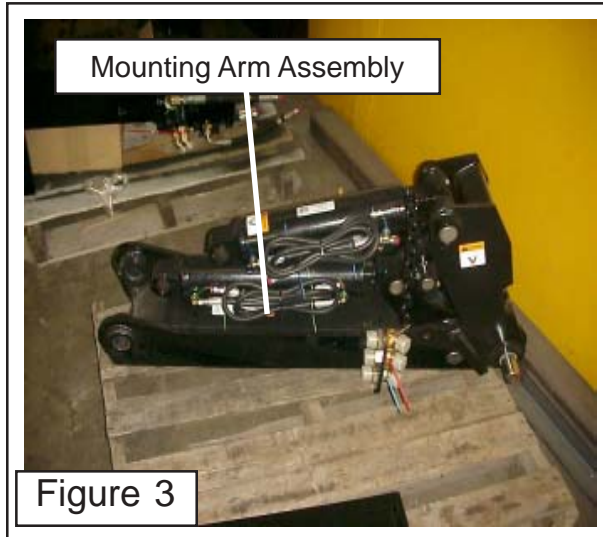
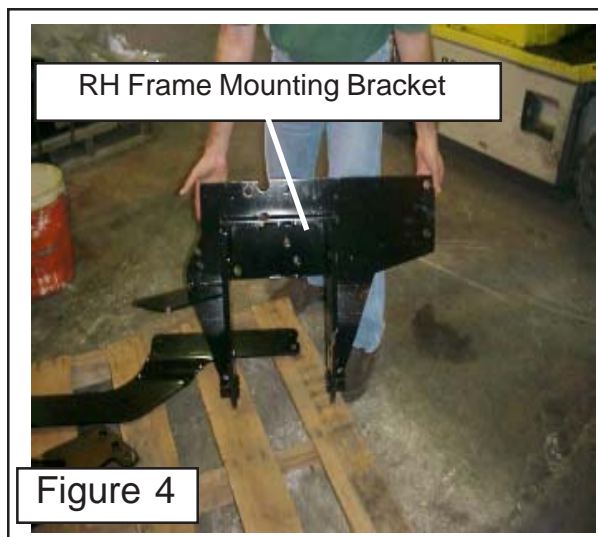
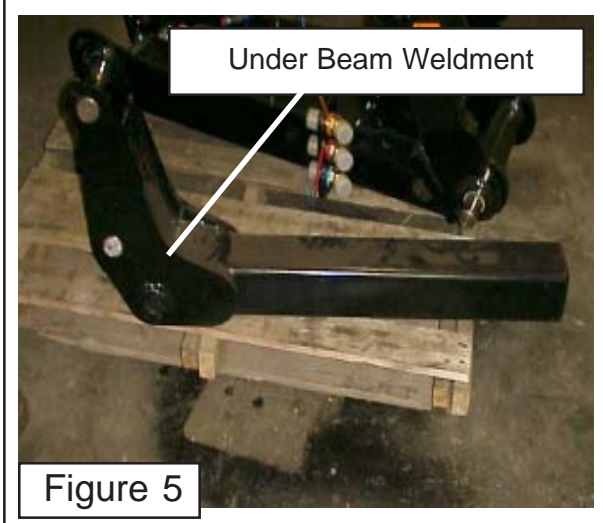

Figure 3
Figure 4
Figure 5
1. Locate Components. Locate Mounting Arm Assembly (See Figure 3). Locate the RH Frame Mounting Bracket (See Figure 4). Locate the underbeam weldment (See Figure 5). These component will be assembly together then mounted on to the tractor. These are heavy components you will need an overhead hoist to lift them into position.
In general, a Joystick Mounting Bracket is attached to the tractor, often under the Tractor Seat or the the door post. The Joystick, Momentary Start Switch, and the Push Pull Switch are mounted to the Joystick Mounting Bracket . It may be necessary to use a floor port, or cut a hole in the floor board of the Tractor. Make certain that this does not interfere with the operation of the tractor or the Brahma. The Hole for the cables and wire harness can be cut with a hole saw if required (See Figure 3).
1. Disconnect the negative lead (ground) from the battery terminal to prevent any damage to the electrical system. (See Figure 4)
3. Install the Four Prong Wiring Harness Connector to the Push Pull Switch. Do not force or bend the pins. Attach the two Spade Connectors to the Momentary Switch. (See Figure 5)
7. Installation of the wiring harness can now be completed. Install all wires according to color and instructions for that color (See Figure 5).